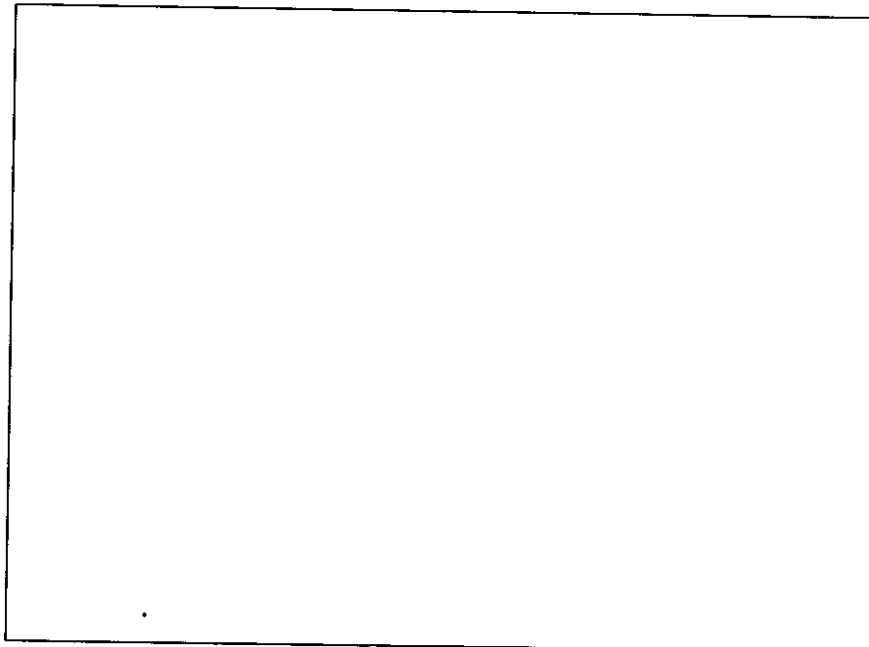

Figure 5-2
- 2) Connect a digital voltmeter or high impedance tester (positive lead to VCO pin2, negative to ground) and check as shown in Table 5-1. (See Fig. 5-2.)